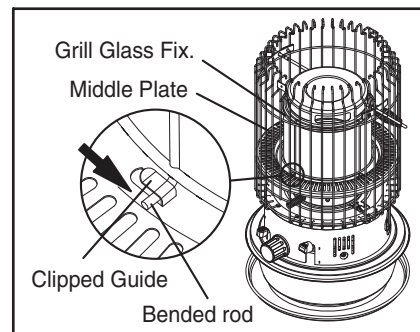

Fig. 4
- FIG 4 related.
- Align and insert 4 bended rods to Clipped Guides on Middle plate. (Fig 4)